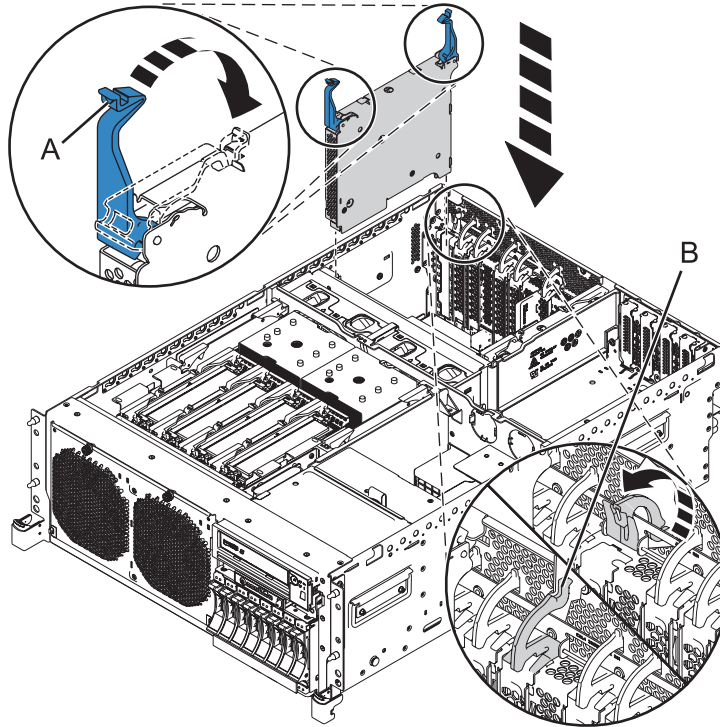
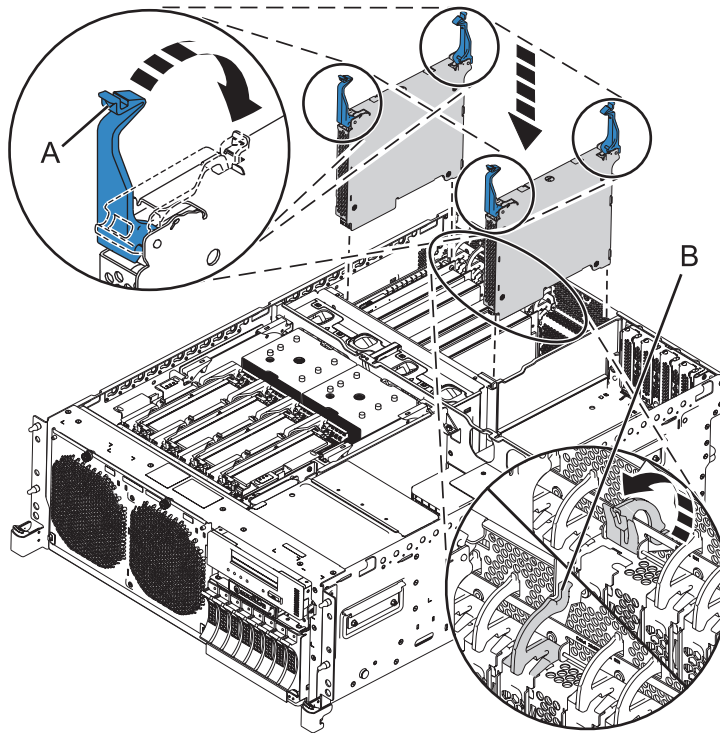

Figure 3. Installing the GX adapter in a rack-mounted 02E/4B or 05F/6B system
Figure 4. Installing the GX adapter (FC EJ03) in a rack-mounted 02E/4C or 05E/6C system
11. Evenly rotate the latches **(A)** into the locked position, as shown in Figure 3 on page 4 and Figure 4 on page 4.